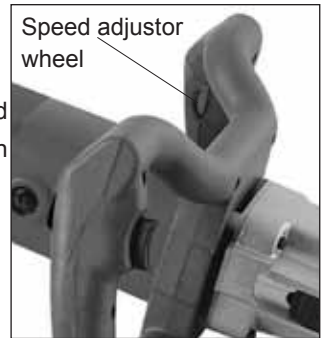

Fig.6
By turning the thumb operated adjustor wheel (45), the speed may be adjusted electronically for best mixing performance in a given medium. See Fig.6.